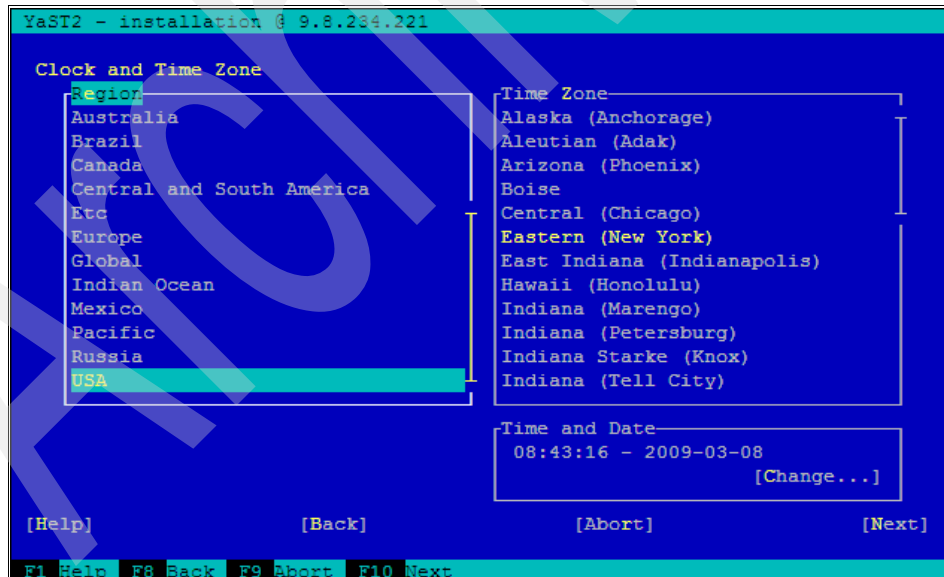

Figure 9-19 Clock and Time Zone
13. Configure your clock and time zone information, as shown in Figure 9-19.